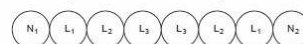

Figure H.52.1 – Special configuration for 6 parallel single-core cables in a flat plane (see 523.7)
- in a flat plane, see Figure H.52.1,